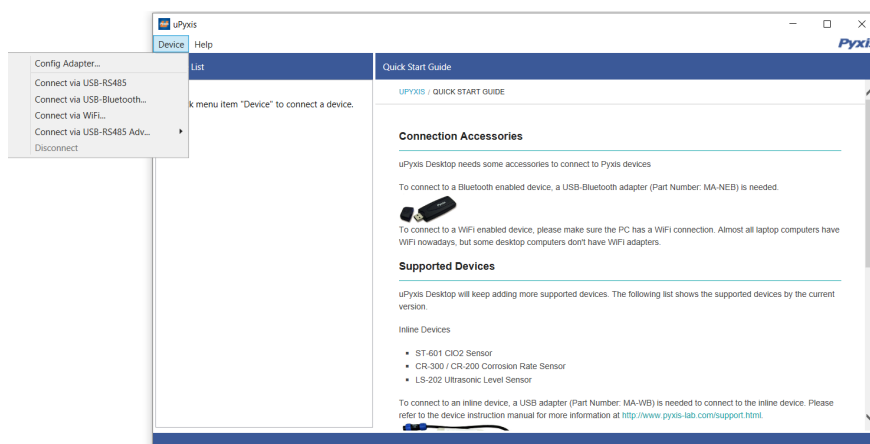

Figure 11.
3. On uPyxis® Desktop App, click Device → **Connect via USB-Bluetooth** (Figure 11).
4. If the connection is successful, the ST-588 and its Serial Number (SN) will be displayed in the left pane of the uPyxis® window.